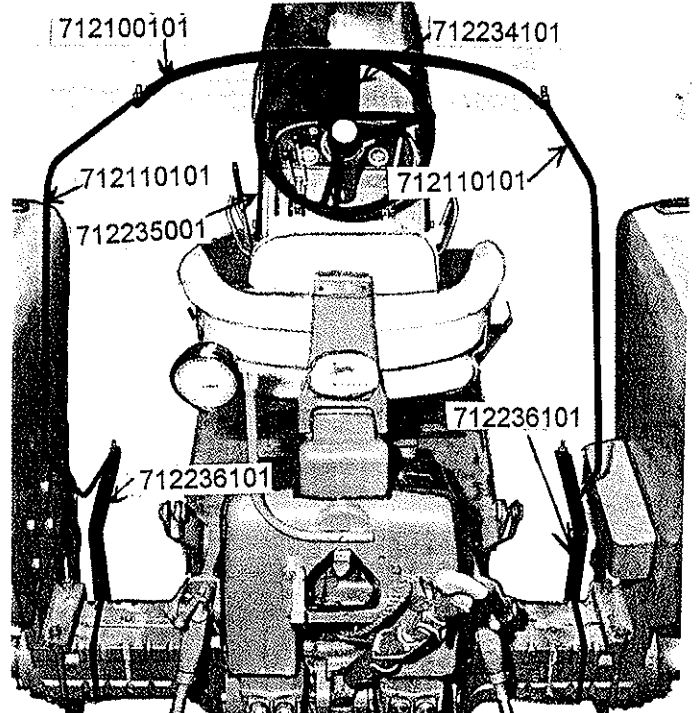

Figure 2
5. Use large U-bolts to mount the #712236101 side arm brackets on axle housing. See Figure 2.